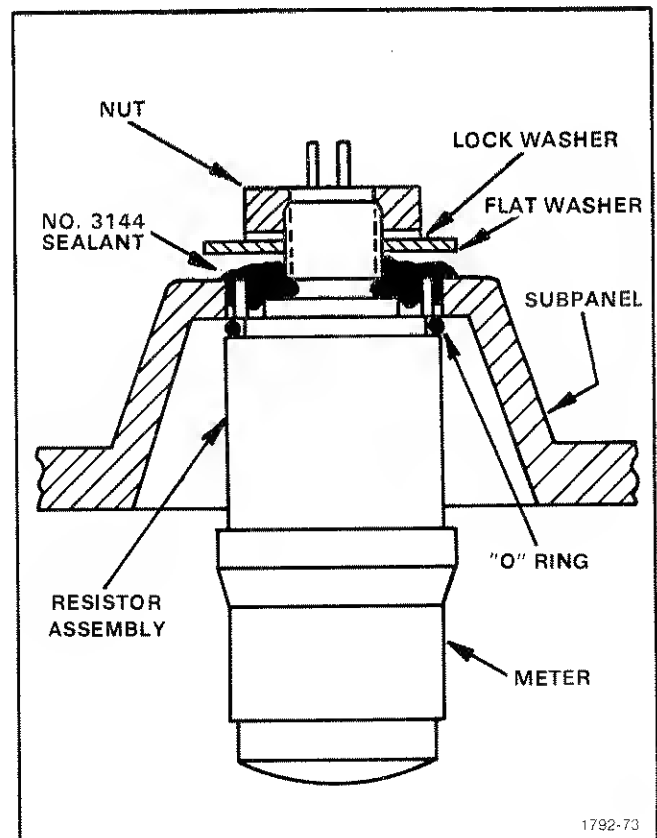

Fig. 5-20. Installation of Distance Meter.
19. Install the DISTANCE METER in the Front Panel (see Fig. 5-20)